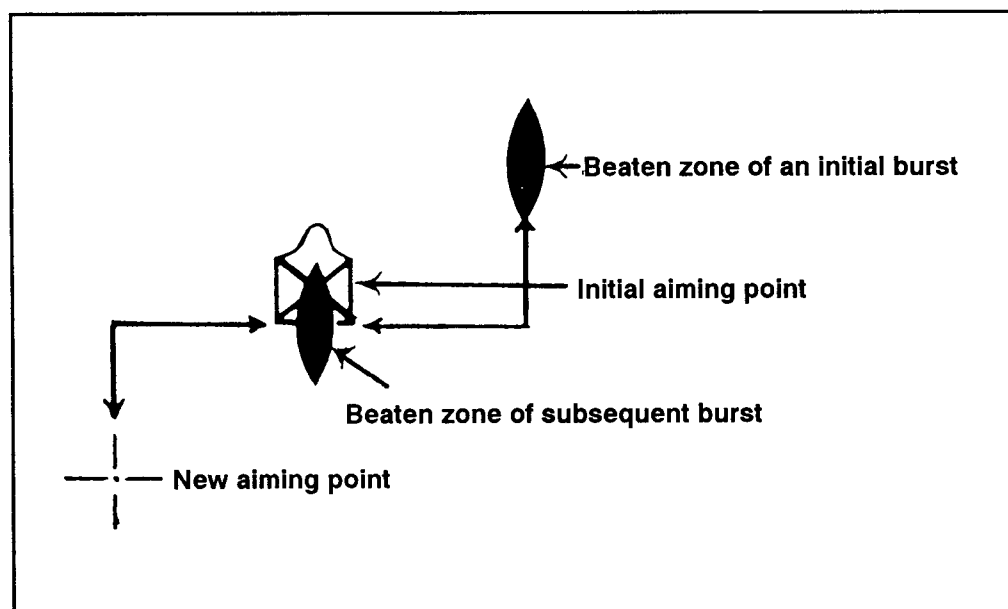

Figure 5-8. Adjusting aiming point method.
b. **Adjusted Aiming Point Method.** In this method of fire adjustment, the automatic rifleman uses his sight but does not make sight corrections. This is the quickest method. If the automatic rifleman misses the target with his initial burst, he must rapidly select a new aiming point the same distance from the target as the center of impact of the initial burst, but in the opposite direction. For example, if the strike of the rounds of the initial burst is 20 meters beyond and 10 meters to the right of the target, he rapidly selects an aiming point about 20 meters short and 10 meters to the left of the target, lays on that aiming point, and fires (Figure 5-8). When selecting a new aiming point, he may have to shift his shoulders slightly to the left or right for windage corrections. For elevation changes, he moves his elbows closer together (lowers the impact) or farther apart (raises the impact). For large corrections, he must move his elbows and realign his body to remain directly behind the weapon. He does this by redistributing weight to his elbows and toes and raises his body off the ground. He shifts his body using his toes, to the right or left, pivoting on his elbows until he is on line with the target. Then he assumes a steady position, obtains the sight picture, and engages the target.